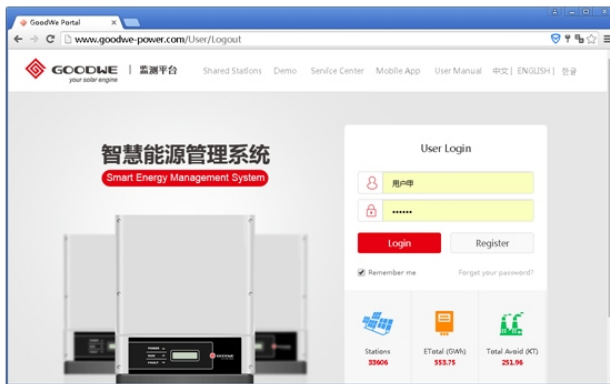

Figure 7.2-1 Smart Energy Management System Login Page
Step 1: Through your computer, visit the website <http://www.goodwe-power.com/> to enter GOODWE monitoring platform homepage. Enter the correct user name and password, and click on "Login" to enter the system, as shown in Figure 7.2-1: